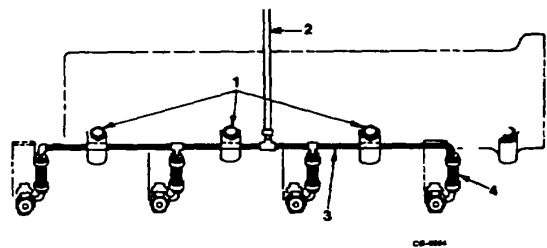

Figure 24. Removal of Leak-Off Manifold
7. Remove leak off manifold with support clips from intake manifold and disconnect from nozzle coupling hoses, remove leak off manifold (Figure 24).